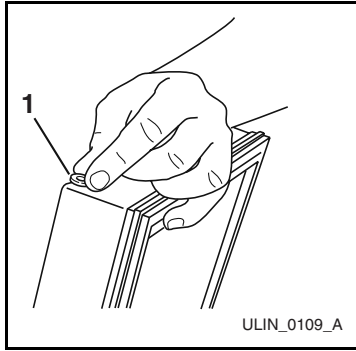

Figure 25
- Relocate plastic spacer/bushing (**Figure 25, 1**) on bottom of door to opposite side, and place door on bottom hinge pin. Clean out bushing hole in door bottom with a screwdriver if needed.